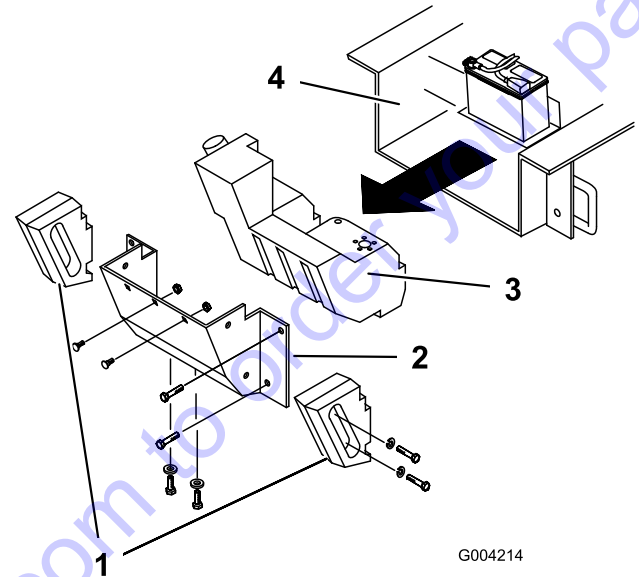

Figure 65
Using a flashlight, open the hood and inspect the area under the engine regularly. When the debris is 2.5 to 5 cm (1 to 2 inches) deep, complete the following procedure (refer to Figure 65 throughout this procedure):
5. Remove the bolts, washers, and lock washers securing the 2 side weights, removing the weights (Figure 65).
8. Remove the 6 nuts and bolts securing the rear panel; remove the panel (Figure 65).
10. Slide the fuel tank to the rear (Figure 65).
17. Slide the fuel tank part way into the chassis (Figure 65).
23. Replace the rear panel and secure it with the 6 bolts and nuts removed previously (Figure 65).
25. Install the side weights with the bolts, washers, and lock washers removed previously (Figure 65).